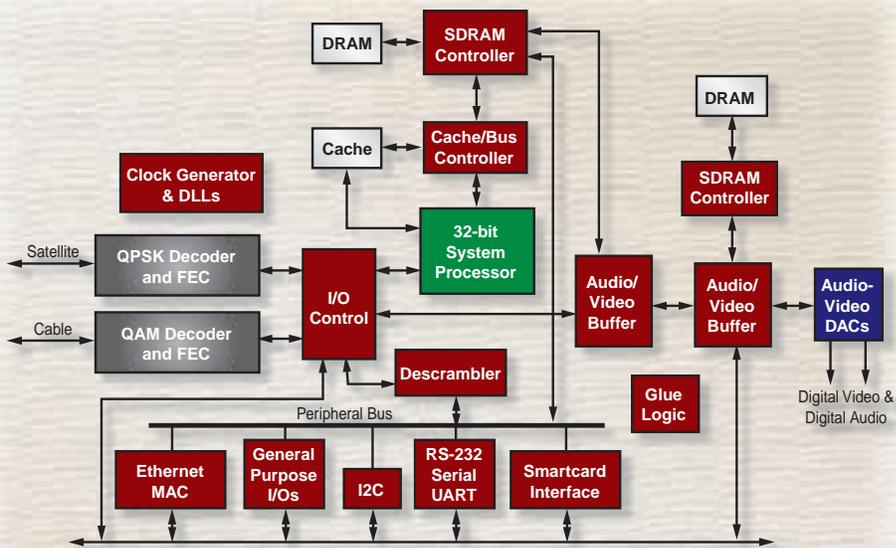

Figure 2 - Digital set-top box
- Entry-level digital set-top boxes are capable of receiving broadcast digital television that is complemented with a pay-per-view system and a very basic navigation tool. They have no return channel, and therefore do not interact with computer servers. Characteristics of this type of low-cost box include limited quantities of memory, interface ports and processing power. Figure 2 shows a digital set-top box.